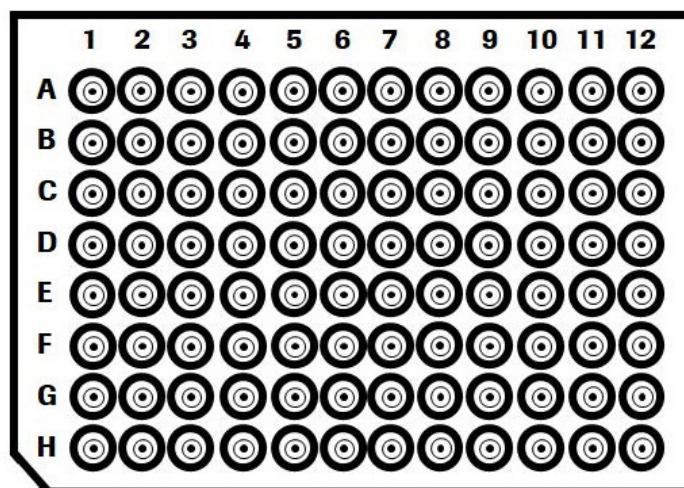

Figure 2: KAPA UDI Primer Mixes plate layout.
3. Before removing the foil cover, please ensure the plate is in the correct orientation before proceeding. In order to have well position A1 on the top left corner, the notched corner must be facing the user on the bottom left, as shown in Figure 2.